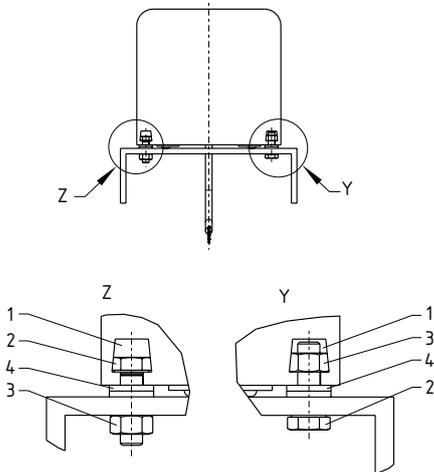

Fig. 4
Two slot strips (1) are provided over the entire length of the bumper for the fixation of the bumper. Attachment is by means of an M6 hexagon screw inserted into the two groove strips, e.g. ISO 4018 (2) and/or M6 hexagon nut, e.g. ISO 4032 (3) and 2 washers 6.4, e.g. ISO 7090 (4) see Fig. 4. A fastening screw must be provided in each groove strip at least every 250 mm. The distance at the start and end must be max. 50 mm. The mounting surface imperatively must be plane and clean. Any mounting position, the bumpers however must not be used in the direct sphere of influence of hot chips, heavy or sharp-edged workpieces.